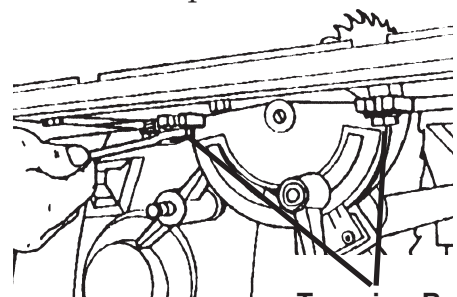

Figure 50 Trunnion Bolts (Front)
- a. Use a 9/16" Wrench to loosen the Bolts which hold the Worktable to the Trunnions, (Front Trunnion Bolts shown in Figure 50) and the Table Base. Loosen these four Bolts only enough to allow movement with firm pressure.